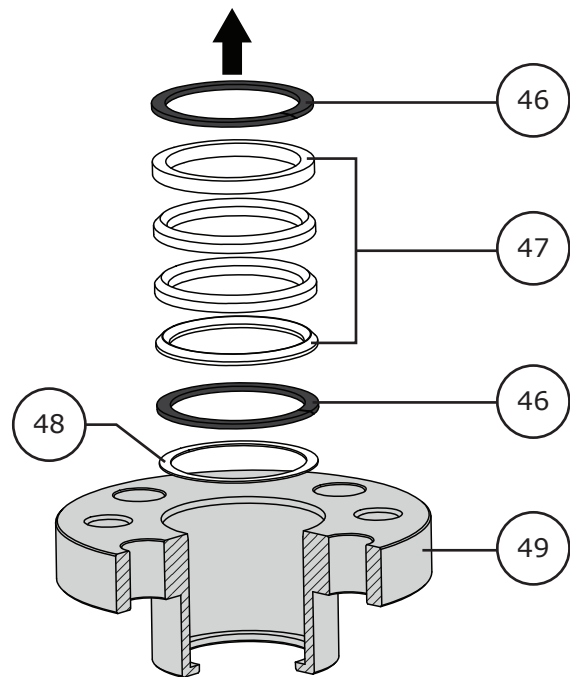

Figure 14 Live Loaded Packing Ring Removal
- 4 Remove the packing box nuts (Key 3) or cap screw (Key 40). Remove the live loaded packing box (Key 49, Figure 14). **NOTE:** The o-ring (Key 7) may stick to the seal carrier during removal. Remove the o-ring (Key 7).
- 5 Using a mechanics pick set, carefully remove the anti-extrusion rings (Key 46), packing set (Key 47), and packing box ring (Key 48) from inside the bore of the packing box (Key 49). Refer to Figure 14.